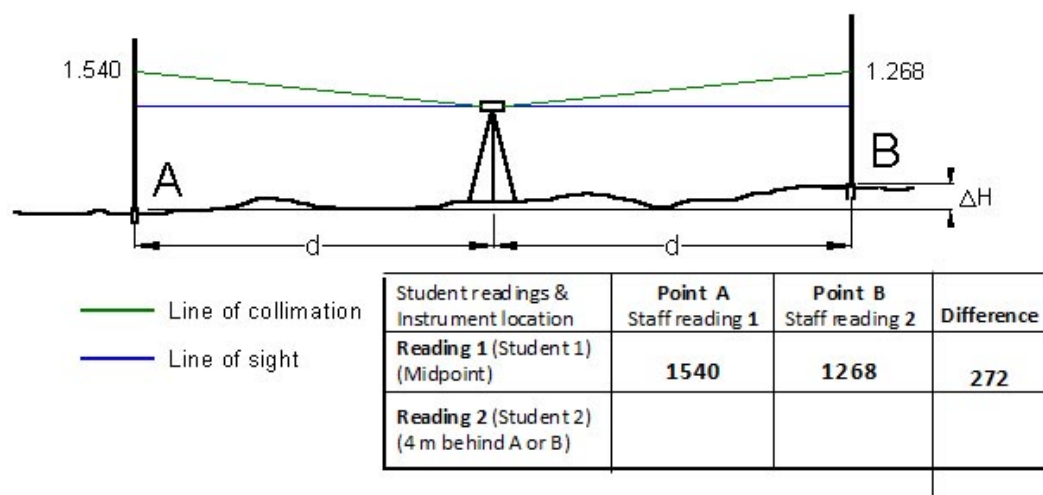

Figure 1
- On the ground, two points A and B are marked a distance of approximately 50 metres apart. In sandy soil two pegs are used, on hard surfaces nails or paint may be used. The level is set up half way between the two points and carefully levelled. A levelling staff is placed at Peg A and a staff reading is taken then the level is placed on Peg B and a reading is taken. The staff reading at A is 1.540 and at B 1.268. The difference between the readings is 0.272. See recordings in Table Figure 1 below.